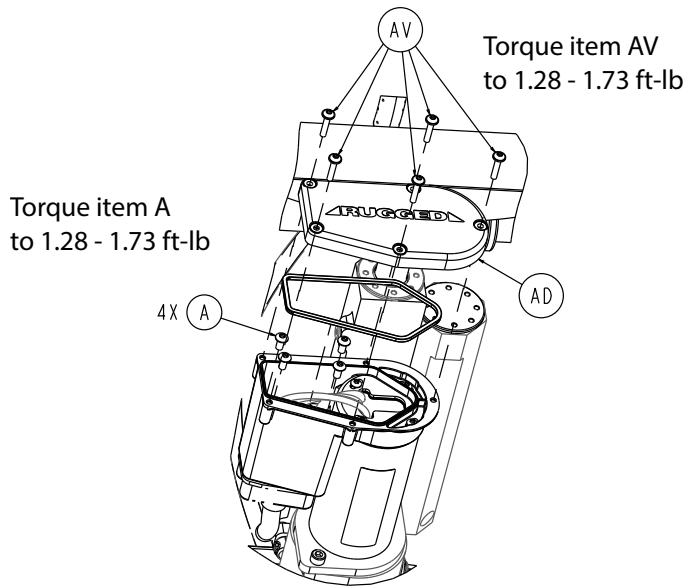

Figure 29 – Lift motor cable assembly components
- Using a T20 Torx driver, remove the five round washer head tapping screws (AV) that secure the actuator end cap (AD) to the hydraulic assembly electrical box (Figure 29). Save the screws and end cap.
- Using a T25 Torx driver, remove the four button head torx screws (A) that secure the lift motor cable assembly to the actuator cover (Figure 29). Remove and save the lift motor cable assembly. Save the screws.